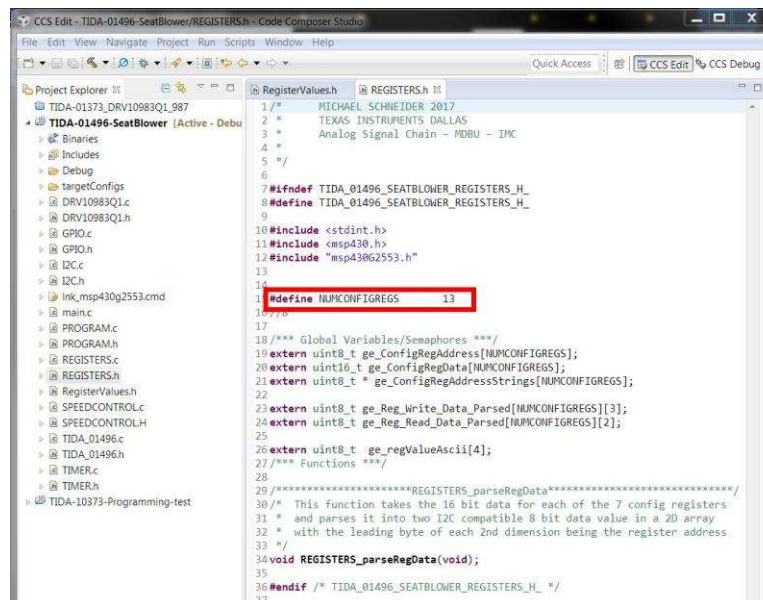

Figure 11. How to Change Total Number of Registers Used in Project
- b. Define the number of total registers in the REGISTERS.h header file as shown in Figure 11.